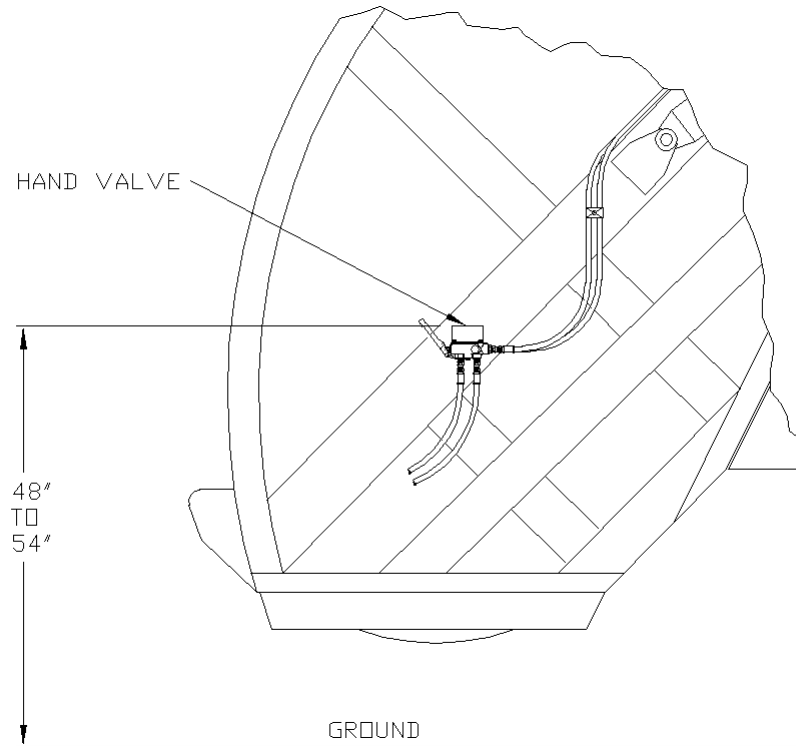

Figure 2.
1. Choose and mark an acceptable location(s) on the side(s) of the truck to mount the hand valve assembly(s) (Figure 2).